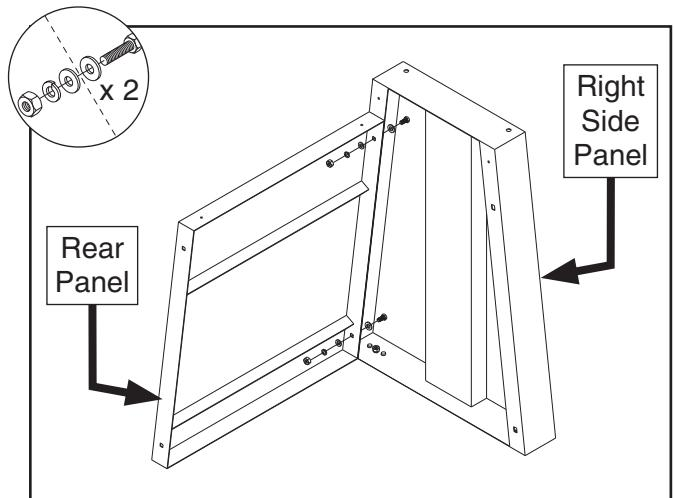

Figure 8. Right side panel attached to rear panel.
3. Attach right side panel to rear panel with (2) M8-1.25 x 25 hex bolts, (4) 8mm flat washers, (2) 8mm lock washers, and (2) M8-1.25 hex nuts (see **Figure 8**).